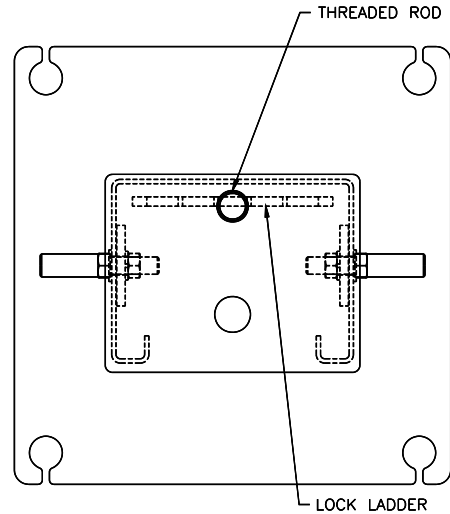

Fig 6 – Locking Ladder Orientation
- 7) Reassembly the lock ladder to the top cap at each column. Note: the lock ladder is offset from the center of the threaded rod, and orientate per **Fig 6**.